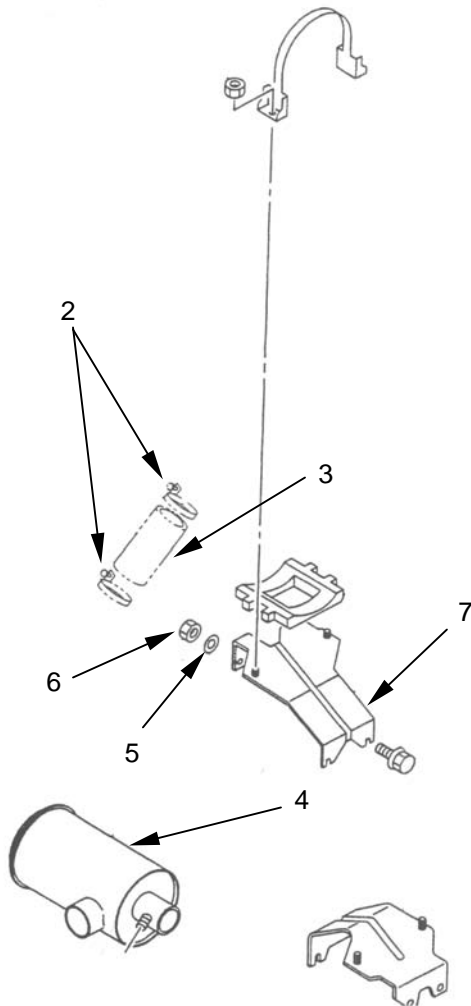

Figure 21. Air Filter
- a. Install foam padding (**figure 21, item 1**) on top of engine cover.
- b. Slide hose clamps (**figure 21, item 2**) over flex hose (**figure 21, item 3**).
- c. Connect air filter assembly (**figure 21, item 4**) to engine with flex hose (**figure 21, item 3**) attached.
- d. Tighten hose clamps (**figure 21, item 2**).
- e. Install lockwashers (**figure 21, item 5**) and tighten mounting bracket nuts (**figure 21, item 6**) and bolts (**figure 21, item 7**).